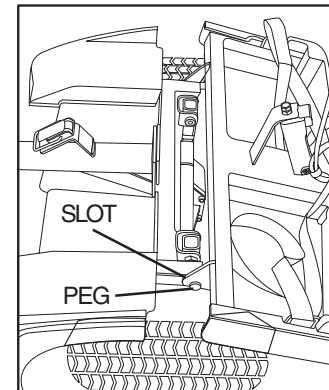

Figure 20. Separating The Frame Sections
3. Lift the front section up until the lower pegs are no longer in the slots. See figure 20.